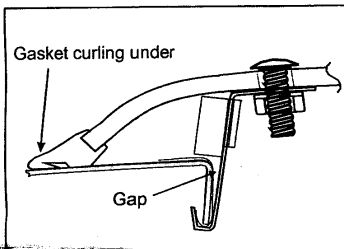

Figure 6. Improper installation
- the clips are resting against the vertical edge of the sunroof opening (no gap as shown in figure 6 and 7)
- the gasket does not curl under (see figure 6), also see step 7